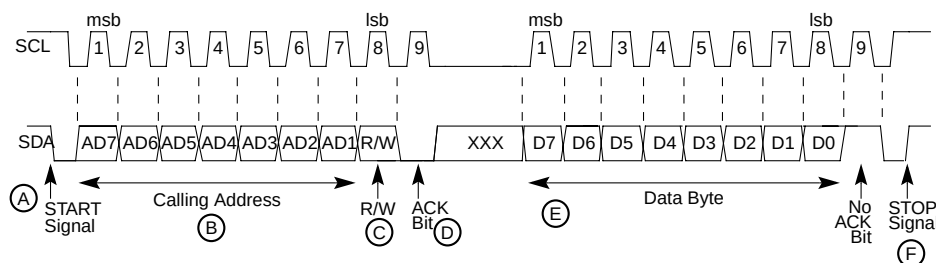

Figure 8-2. I2C Standard Communication Protocol
1. **START signal**—When no other device is bus master (both SCL and SDA lines are at logic high), a device can initiate communication by sending a START signal (see A in Figure 8-2). A START signal is defined as a high-to-low transition of SDA while SCL is high. This signal denotes the beginning of a data transfer (each data transfer can be several bytes long) and awakens all slaves.
Data can be changed only while SCL is low and must be held stable while SCL is high, as Figure 8-2 shows. SCL is pulsed once for each data bit, with the msb being sent first. The receiving device must acknowledge each byte by pulling SDA low at the ninth clock; therefore, a data byte transfer takes nine clock pulses.